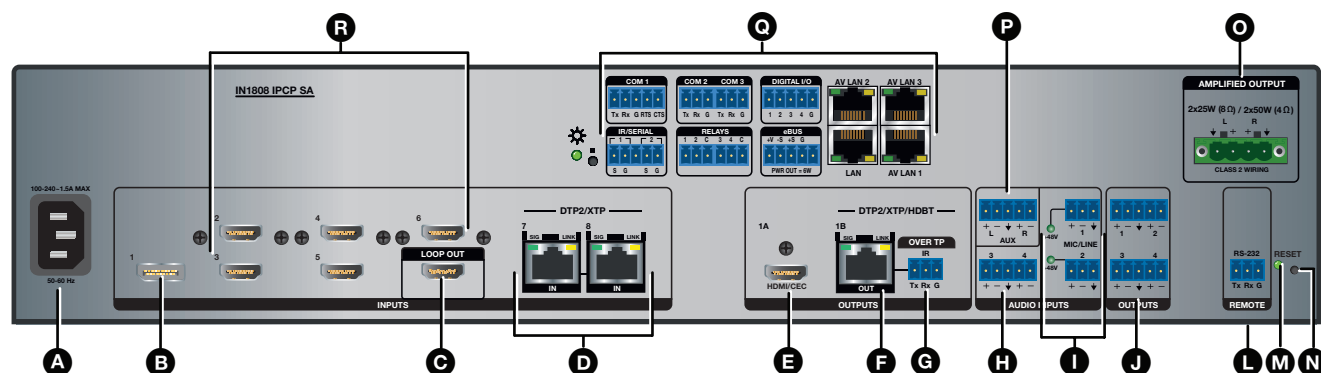

Figure 5. IN1808 IPCP SA Rear Panel
- Q IPCP control processor (IN1808 IPCP SA and IN1808 IPCP MA 70 only)** — The IN1808 IPCP models include a built-in IPCP Pro 355M Control Processor (see figures 5 and 6 on page 13). For these models, the LAN connector is incorporated in the IPCP control processor. For connection and installation details of this control processor, see the *IPCP Pro Series User Guide* at www.extron.com.